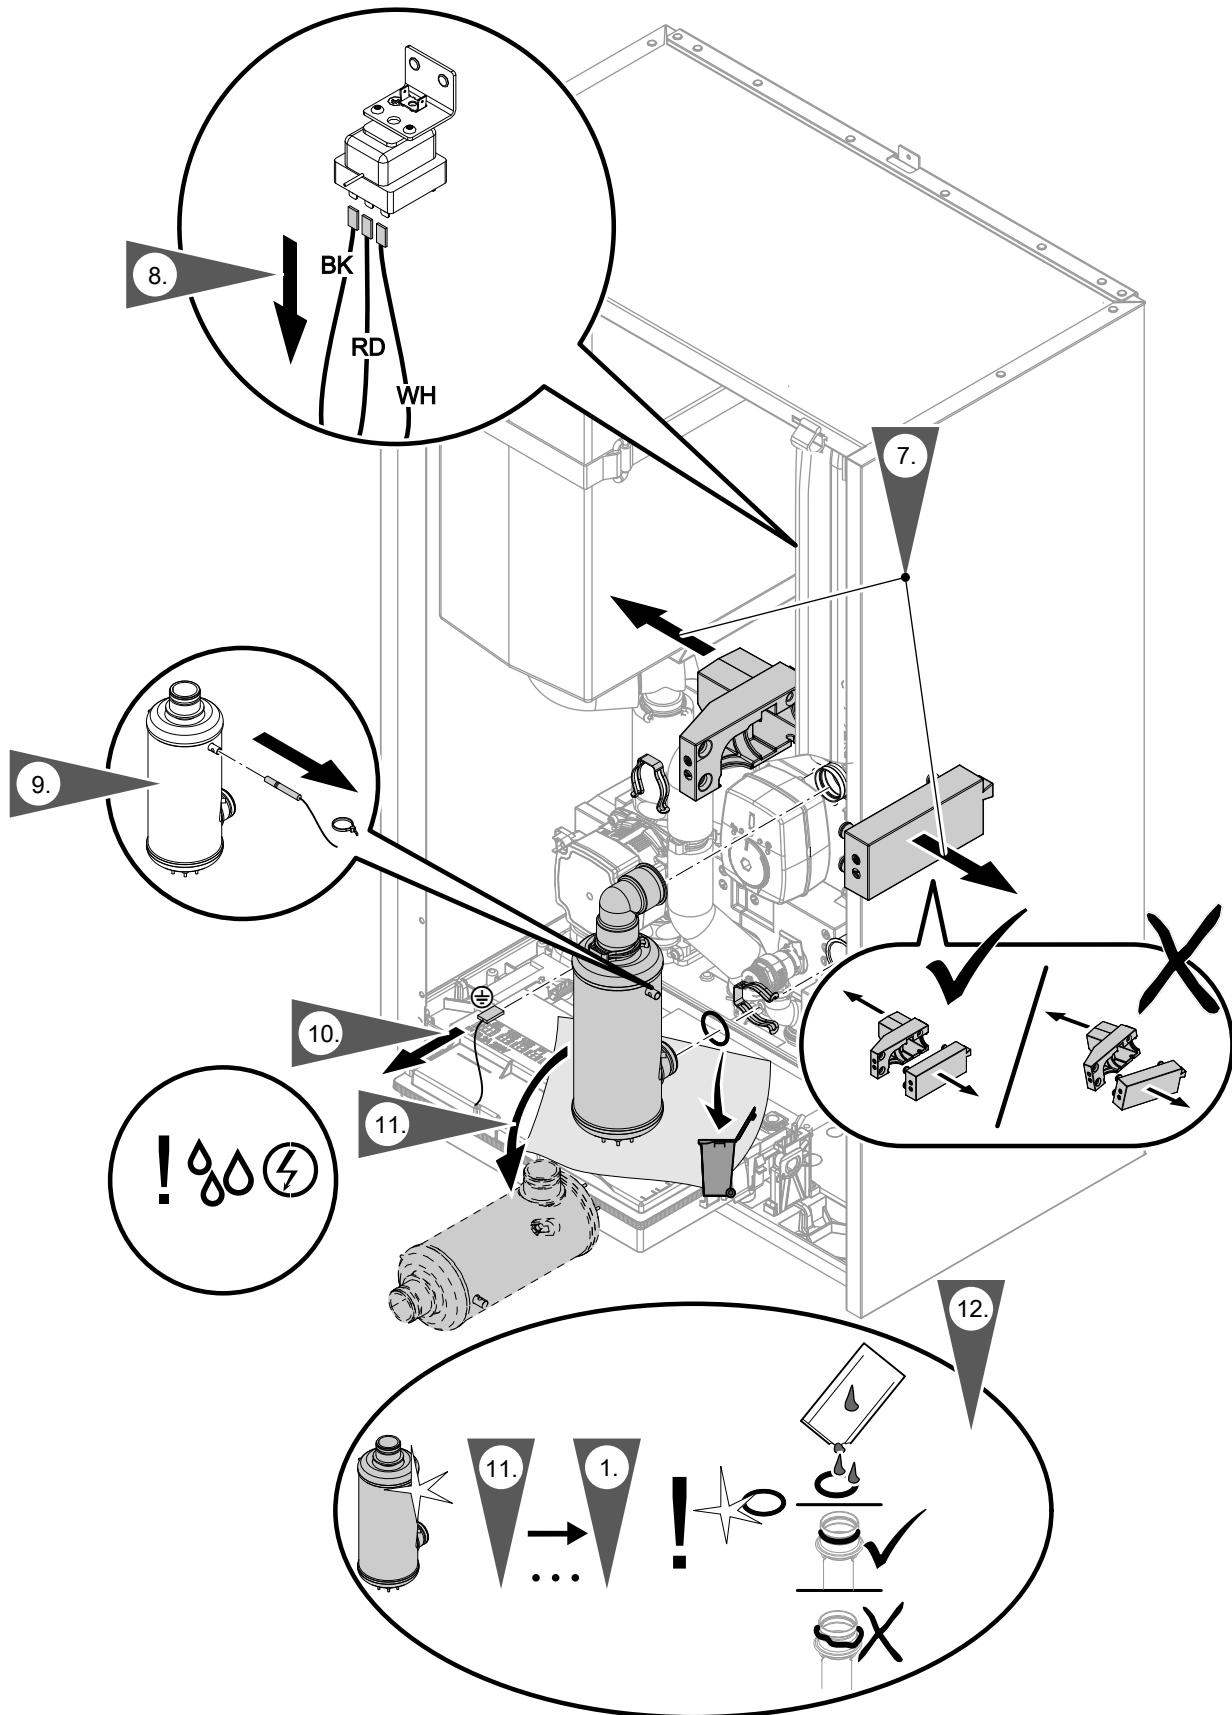

Fig. 92
- Temperature sensor on the instantaneous heating water heater and electrical cables on the high limit safety cut-out: See Fig. 92.